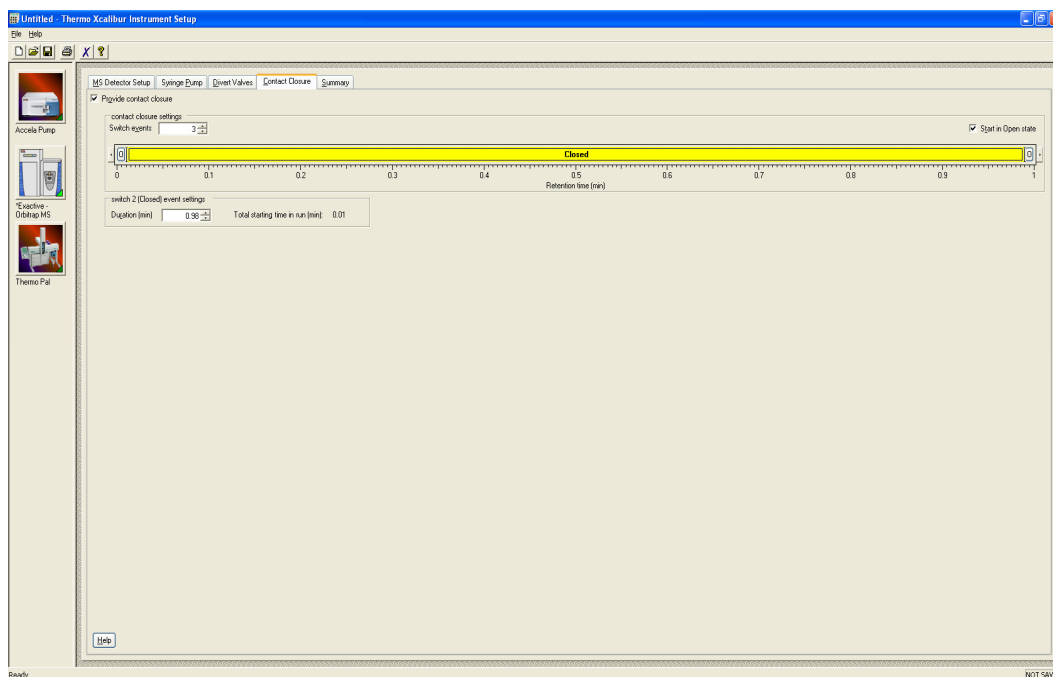

Figure 7.29 Instrument Set Up
2. Check that the “Auto Sequence” button is activated in the main Target Software window (see Fig. 7.15) and that the “external timing” radio button in the Target’s “Settings Dialog” window is activated as well (see Fig. 7.29).
3. Make sure that the “Auto Sequence” button is activated in the main Target Software window (see Fig. 7.15). For the internal timing mode, click the “Internal Timing” radio button in the Target’s “Settings Dialog” window (see Fig. 7.29).
- a. The data acquisition will continue during the time specified for the spot selected, which is known as the desorption time (Fig. 7.29). When the data acquisition from the first sample is done, the laser firing is stopped and the target moves to the next sample spot. The current sample is indicated by a blinking color. The process will be repeated until the last sample spot has been analyzed. Finish the data recording in Tune-Plus Program.
3. The user has the option to create or edit an existing instrument method file. If the user chooses to select an existing file, he/she must open an instrument method file that is appropriate for the user's experiment (see Thermo *Xcalibur* Software Manual for details). Then, click on the contact closure tab (see Fig. 7.29 below).